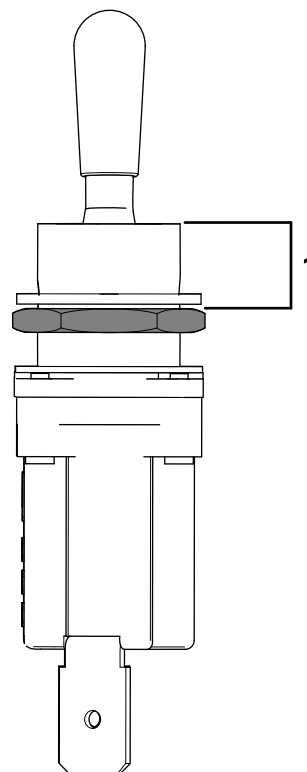

Figur 7
6. Bor et hull (12 mm) foran timetelleren for vippebryteren (Figur 7).